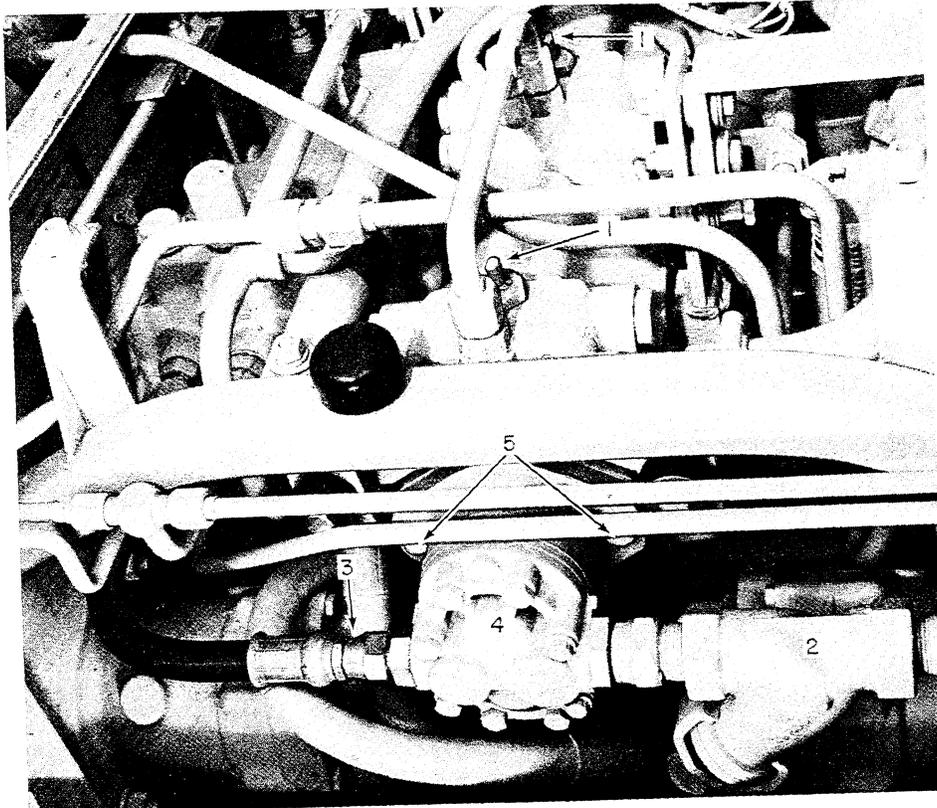

FIGURE 18
7. To turn the 54-tooth sprocket assembly by hand, first turn the tow valves on top of the hydrostatic pump assemblies 90°. The tow valves shown at (1), Figure 18, are in the "run" position. Turning these 90° will allow the final drive to be rotated by hand. Thread two lug bolts into the wheel hub and use them to turn the hub with a pry bar. Another method would be to use a ½" ratchet to turn the motor using the center bolt previously removed from the brake disc assembly, see Figure 17.
8. Remove oil strainer (2) and pressure hose (3) Figure 18, to gain access to the motor being removed. Removal of gear pump (4) may be necessary to gain adequate working space. Remove two mounting bolts (5), Figure 18, to remove the gear pump.